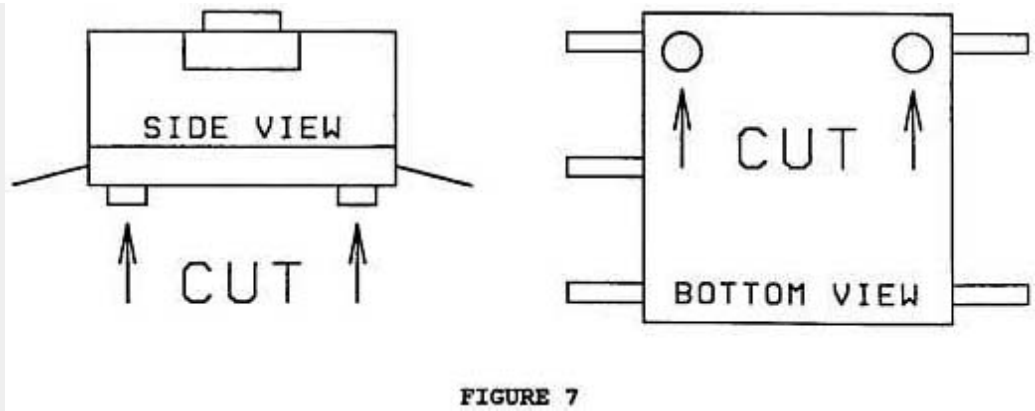

FIGURE 7
- 14. Cut the tabs off the bottom of the new PTT switch to allow the switch to lay flush on the board. Figure 7.